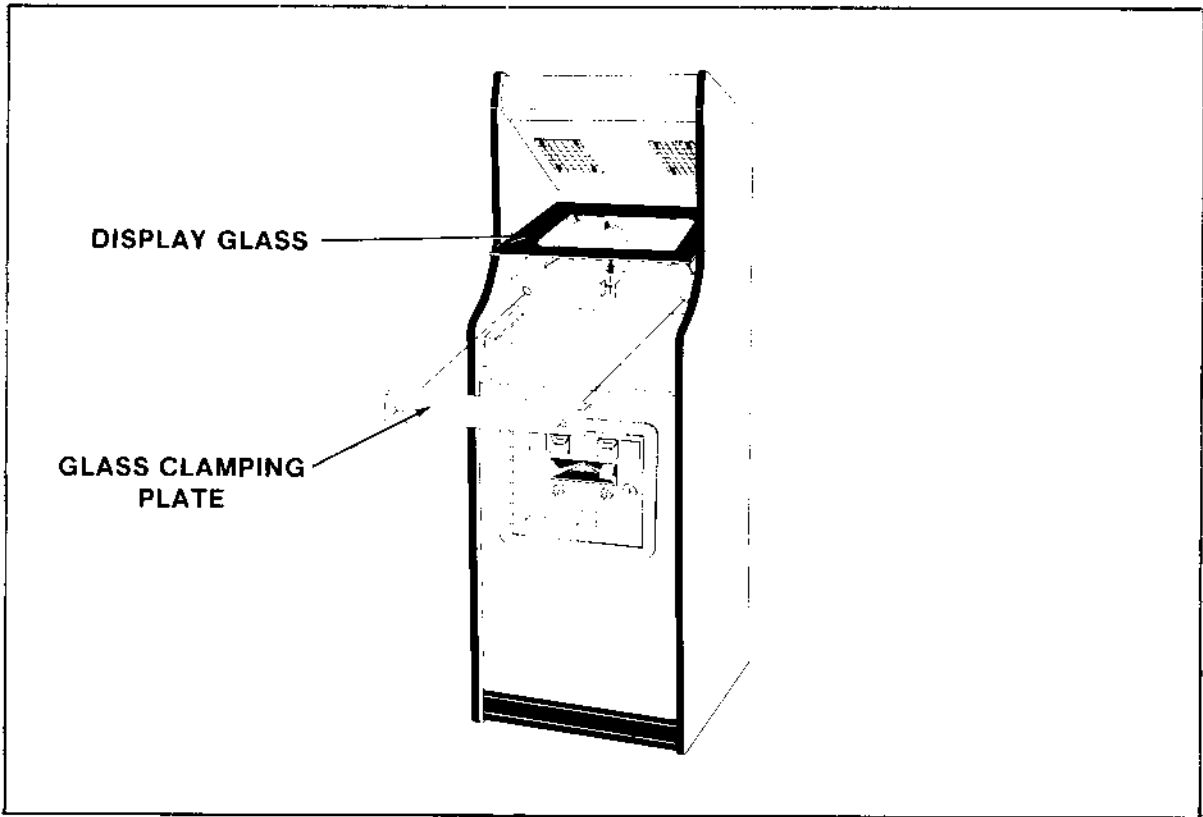

FIGURE 24
- b. Remove the screws which secure the glass clamping plate. See Figure 24.
- d. By putting your finger in the hole in the middle of the main-display-glass support, you can lift it up and out. See Figure 24.